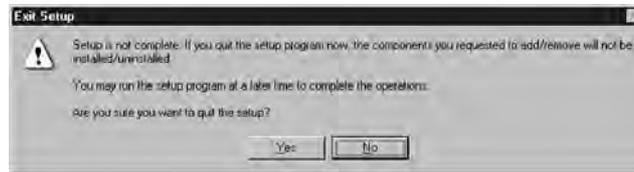

Fig. 8
- To continue installation, click the **No** button. (Fig. 8)